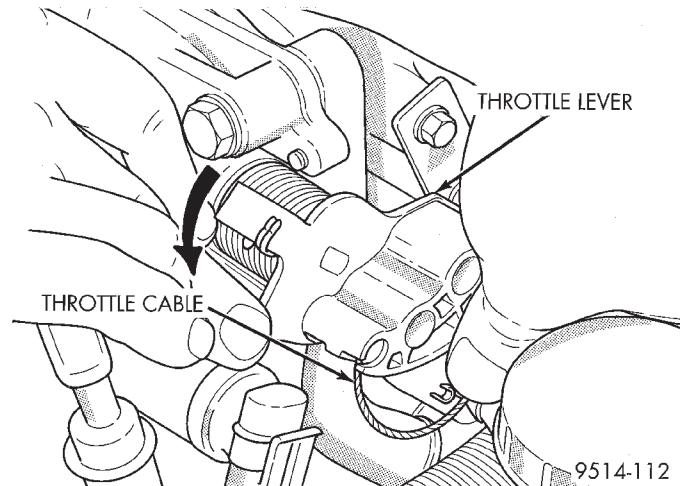

Fig. 76 Throttle Cable Attachment to Throttle Body
(1) Remove air tube from throttle body.
(2) Remove throttle cable from the throttle body lever (Fig. 76).